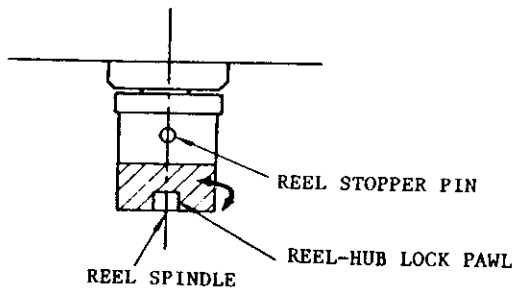

Fig. 5.2.3.2
1. To remove the right reel, turn the reel lock pawl with the reel held until it is caught in the groove in reel bail. Then remove the reel bail, tape core, and inside reel at one time. See Fig. 5.2.3.3.